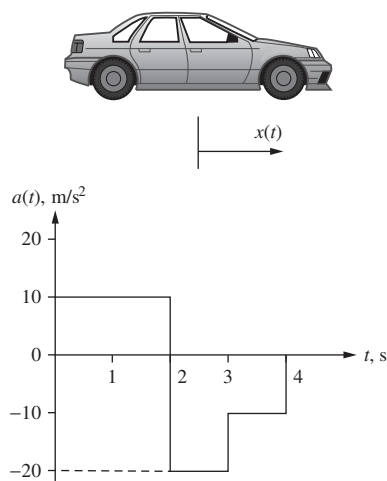

Figure P9.22 The acceleration of an automobile.
- 9-22.** The acceleration of a vehicle is given in Fig. P9.22. If the automobile starts from rest at position $x(0) = 0$, sketch the velocity $v(t)$ and position $x(t)$ of the automobile.